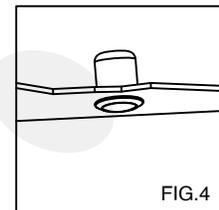

FIG.4
- Complete the installation by push the fixture into the ceiling.(FIG.4)
- Match the Male and Female Plugs and connect them firmly. (FIG. 3) Of using TORSION SPRINGS, squeeze both TORSION SPRING arms together and insert into the TORSION SPRING SLOTS (or place spring on mounting bracket RECEIVER BRACKETS) of the CAN.(FIG. 4)
- Tuck all wires into the CAN and carefully push the RETROFIT TRIM into CAN. (NOTE: To provide enough room in shallow cans, carefully position SOCKET ADAPTER and SOCKET adjacent to the long side of the LED DRIVER prior to inserting the RETROFIT TRIM into the CAN.) (FIG. 4)
- If using TORSION SPRINGS, squeeze both TORSION SPRING arms together and insert into the TORSION SPRING SLOTS (or RECEIVER BRACKETS) of the CAN. (FIG. 4)